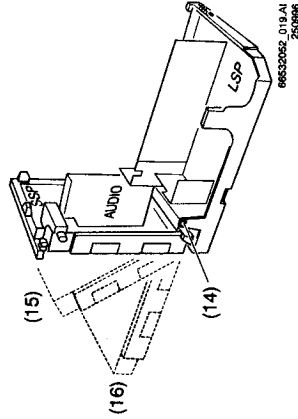
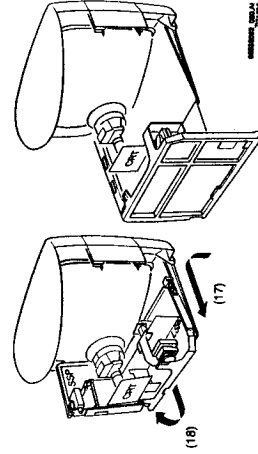

Figure 4.7
Figure 4.8
**SSP copper and component side, module servicing (Figure 4.7)**
1. Release the click construction (14) between the SSP and LSP.
2. Lift the SSP a little and turn it to an angle of 135° (15) or 180° (16) from the LSP. This provides better access to the component side of the SSP and also allows for the removal of modules.
**Service position with table/workbench (Fig. 4.8)**
2. Lift the chassis from the bottom plate and pull it backwards (17).
3. Turn the entire chassis around the CRT-panel (18). The chassis rests on the SSP with the copper side of the LSP backwards.
2. Release the click construction (14 - Fig. 4.7) between the SSP and LSP. Lift the SSP a little and turn it to an angle of 180° (16 - see Fig. 4.7) from the LSP. The mains panel can now be accessed when reaching over the SSP/LSP bracket.